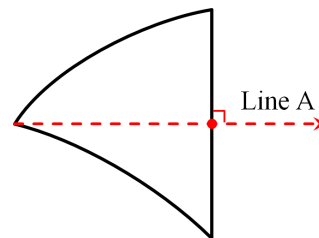

Figure 2
2. Use the pen or pencil to trace the outline of the mirror on the paper and then lift the mirror off the paper. Use the ruler to measure half the length of the flat side of the outline. Make a small mark at the half-way point. See Figure 2.
3. Use the ruler to draw straight Line A, from the apex opposite the flat side of the outline, through the half-way mark you just made. See Figure 2. Extend Line A several centimeters past the outline. Line A represents a line normal, or perpendicular, to the flat mirror surface.